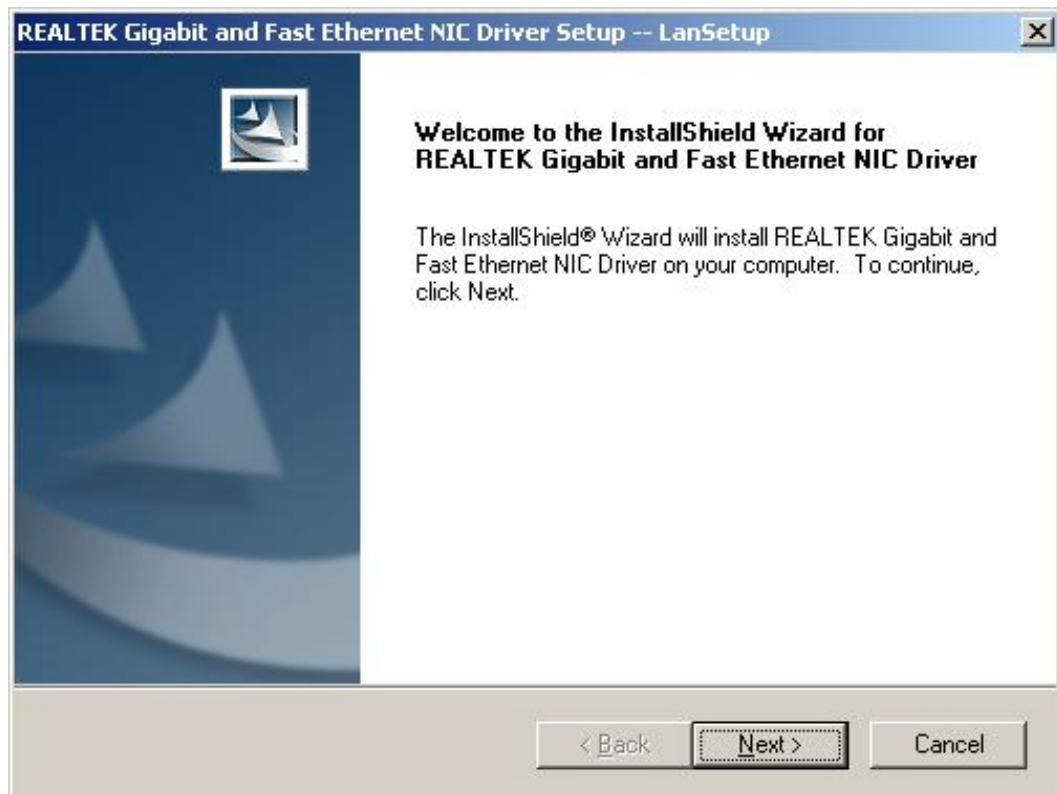

Figure 7-22: Install Wizard Welcome Screen
Step 6: Once initialized, the **Install Wizard** welcome screen appears (**Figure 7-22**).